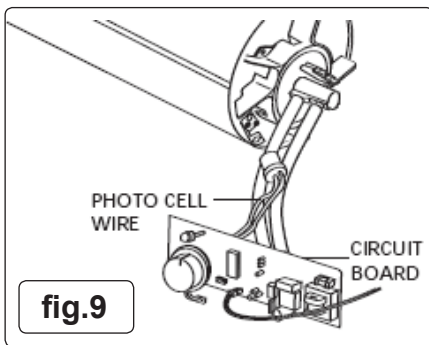

fig.9
7.6. PHOTO CELL (See figs.9&10)